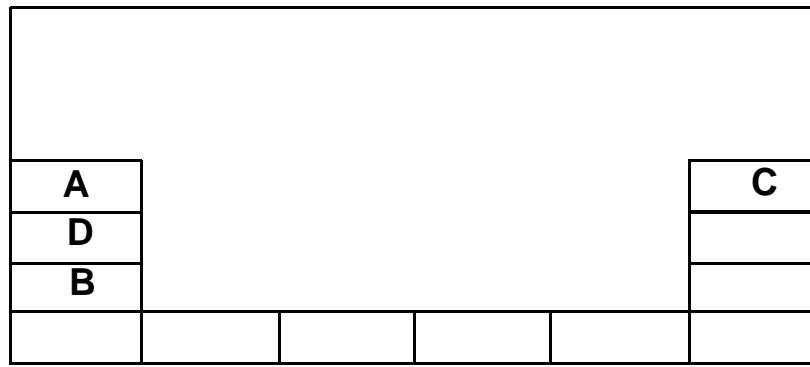

Figure 5-22. Test Mode Screen
2. At the Choose Patient screen, press the softkeys in the order shown in Figure 5-22 (A, then B, then C, then D).